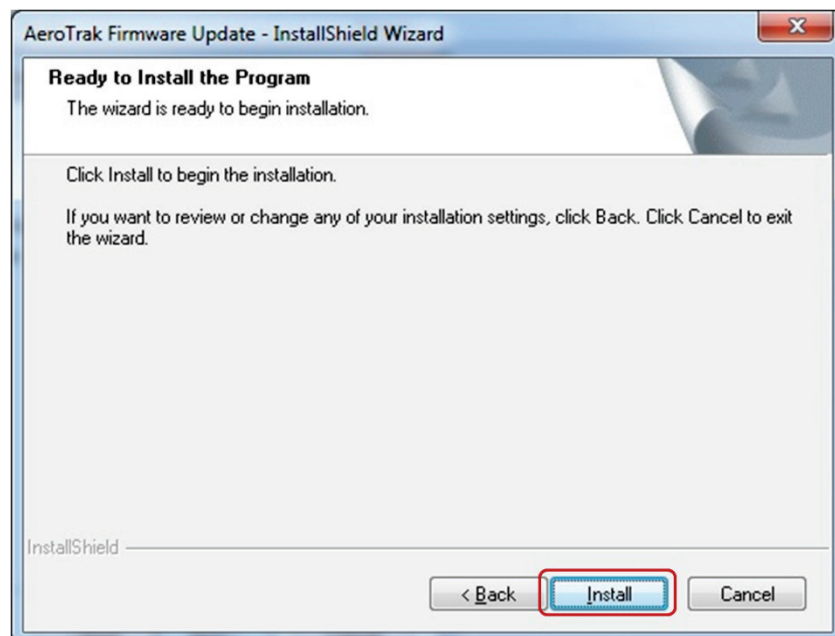

Figure 3
3. Select the **Install** button to continue the installation (Figure 3).